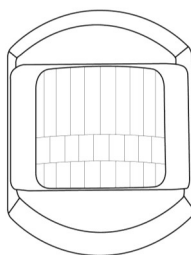

Figure 1
3. Set the left jumper (PET IMMUNITY) to either 33 lbs. (15 kg; default) or 55 lbs (25 kg). (see *Figure 1*)
4. Set the right jumper (SENSITIVITY) to either HI (default) or LO (see *Figure 1*).
WARNING! The polarity of the battery must be observed, as shown (see *Figure 1*). Improper handling of lithium batteries may result in heat generation, explosion or fire, which may lead to personal injuries. Replace only with the